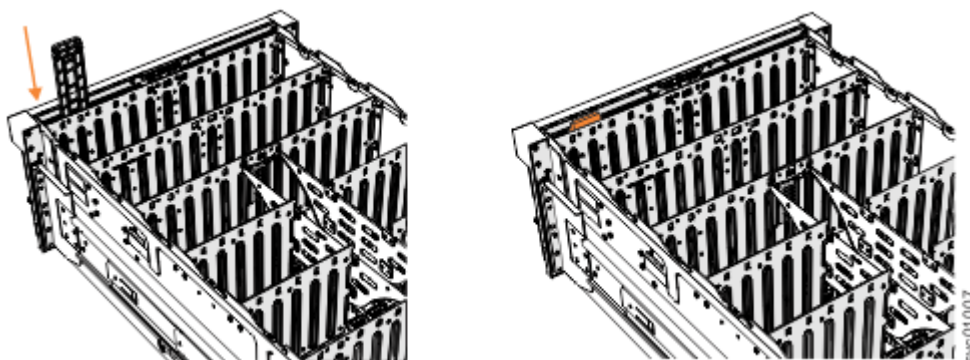

Figure 131. Installing the display panel assembly
2. Carefully align the display panel assembly in the slot at the front of the expansion enclosure, as shown in Figure 131 on page 113.